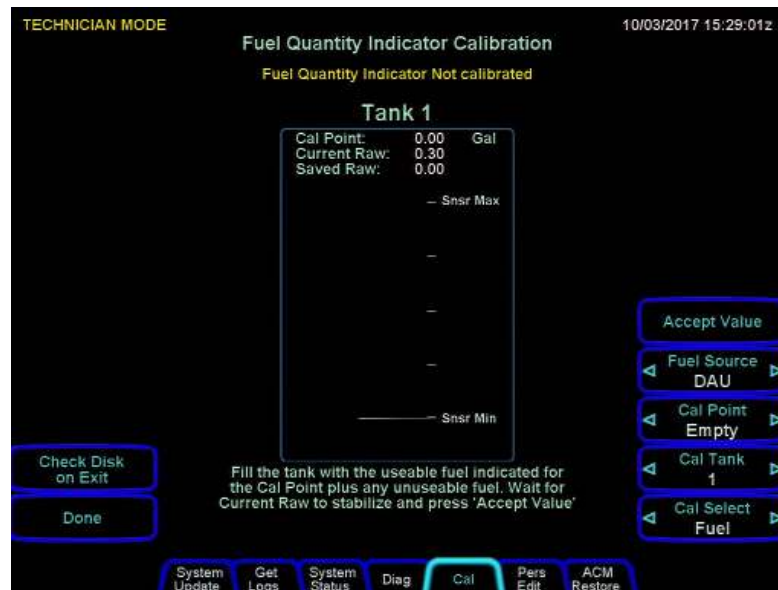

Figure 9: Empty Calibration Point Example
10. Assuring the tank is empty of usable fuel (only unusable fuel remains) select the "Accept Value" LSK. The "Current Raw" value and the "Saved Value" will agree. See **Figure 9:** for example of display.